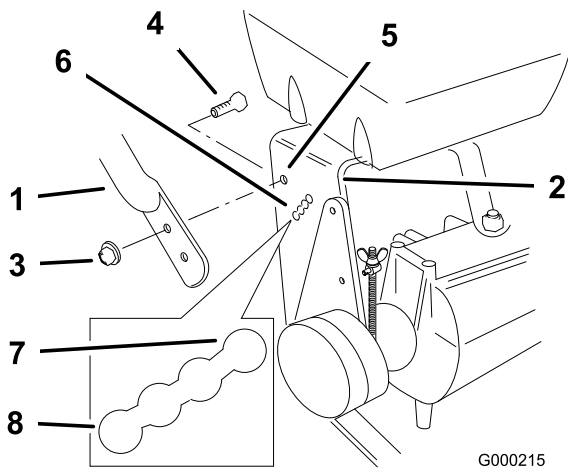

Figure 16
2. Loosen the upper flange bolts (3/8 x 1 inch) and flange nut securing handle to rear frame (Figure 16).
- Remove the lower flange bolts (3/8 x 1 inch) and flange nuts securing handle to rear frame (Figure 16).